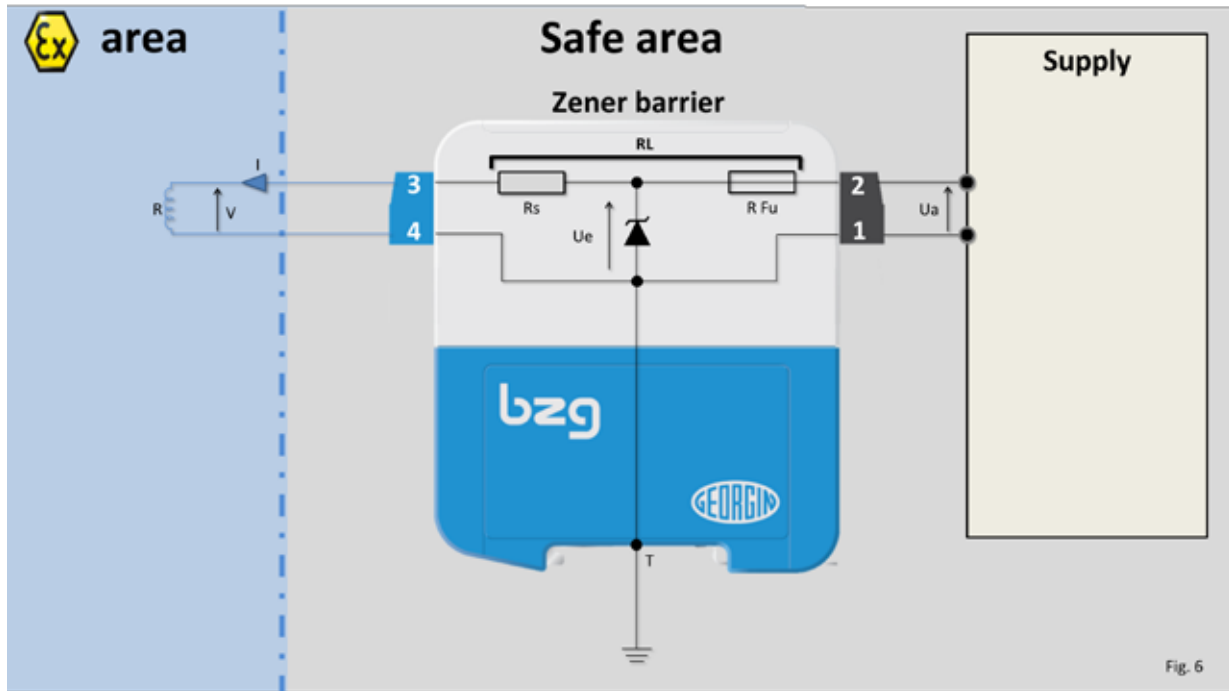

Fig. 6
- The **power supply** function is as follow (Fig. 6):